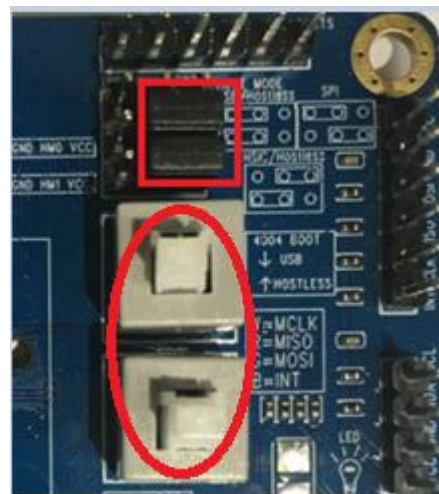

Figure 3-2
- 2、Hostless Mode: if user want to the module work in normal mode, just release the button J3 and J6 or jumper J1 and J2 . (**Figure3-2**)